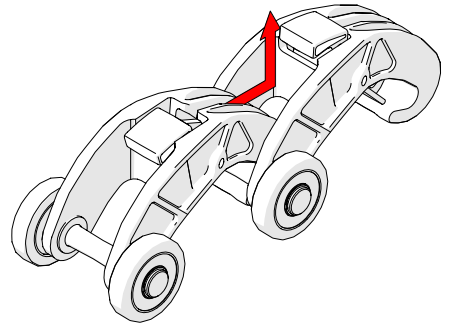

Fig. 98 - Slide link forward and lift
2. While pressing the button, slide the short link forward and up, clearing the hook of the short link from the 2nd short link's axle (Fig. 98).